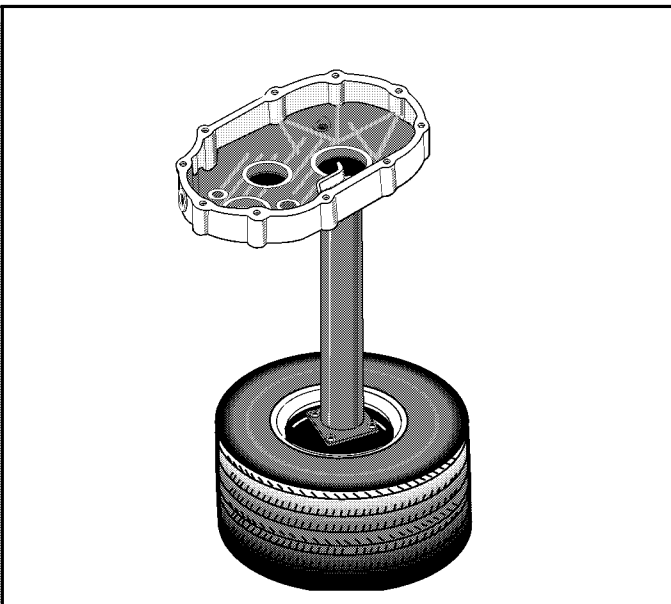

Fig. C-12 Position Axle on Base
1. Attach a wheel and tire to the brake drum and stand on end with the wheel as a base (Ref Fig. C-12 on page C-5).